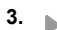

*Fig. 21: Remove process connection (outlet)*
2. → Unscrew the process connection (outlet) from the device body (Fig. 21). If necessary, remove the O-ring from the process connector.